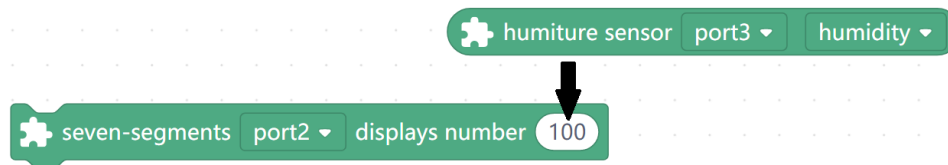

FIGURE 7 To display the sensor reading on the 7-Segment Display, drag the "humiture sensor" block into the 100 field of the "seven-segments" block.
- It takes a little practice to get the hang of how to move the blocks around and connect them. Combine the "seven-segments" block with the "humiture sensor" block as shown in Figure 7.